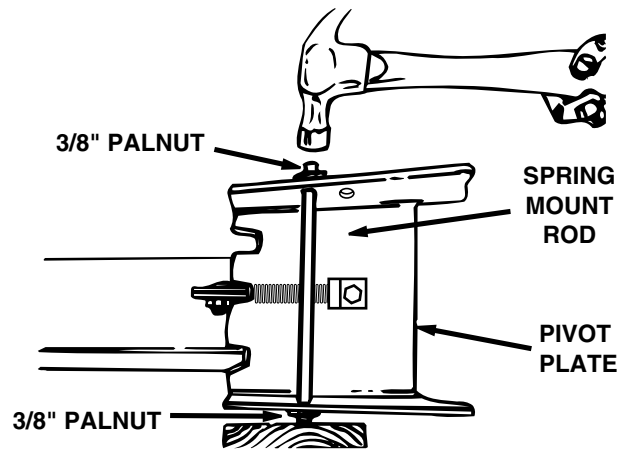

Figure 5
- Using a hammer, assemble a 3/8" palnut onto one end of the spring mount rod. Insert the other end of the rod through the **rear set of holes** in the pivot plate. Turn the pivot plate onto it's side on a block of wood and hammer the remaining palnut onto the other end of the rod. See figure 5.